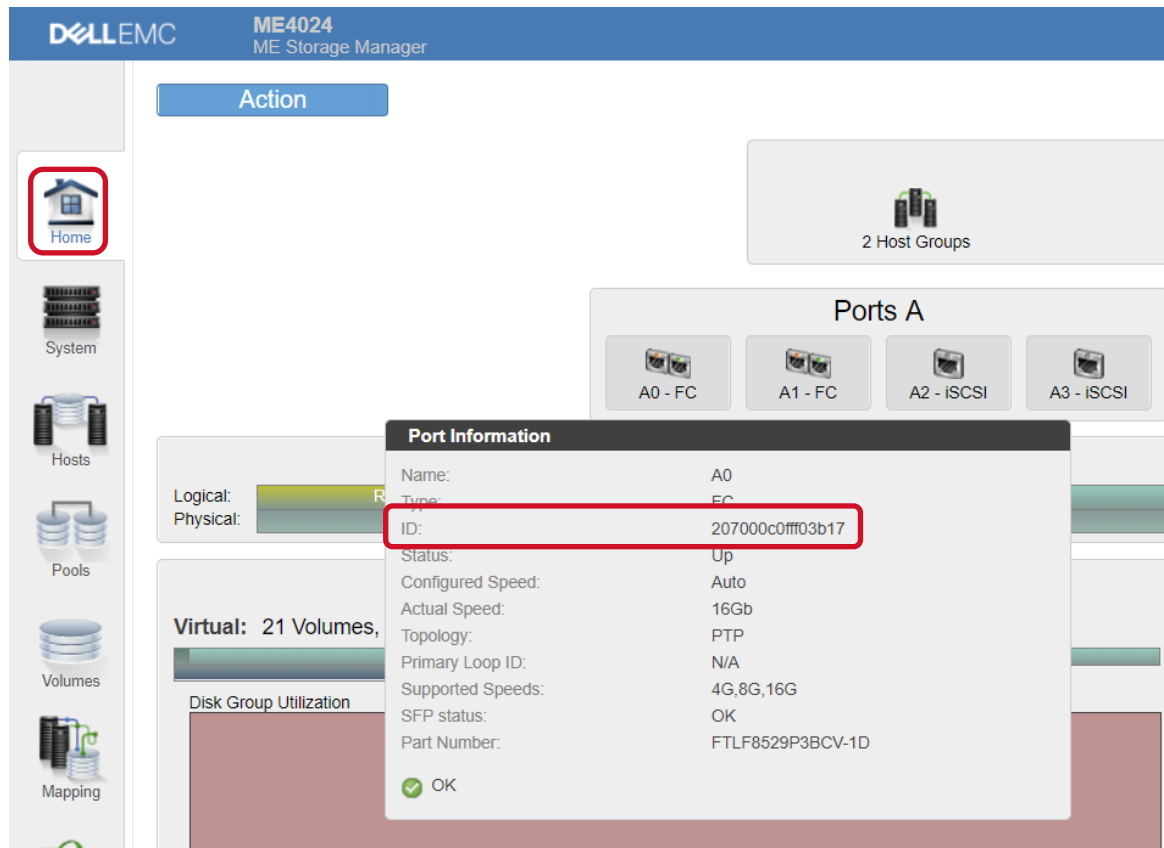

Figure 1 Display FC port WWN in ME Storage Manager
3. Hover over the host ports to display the configuration information. See Figure 1.